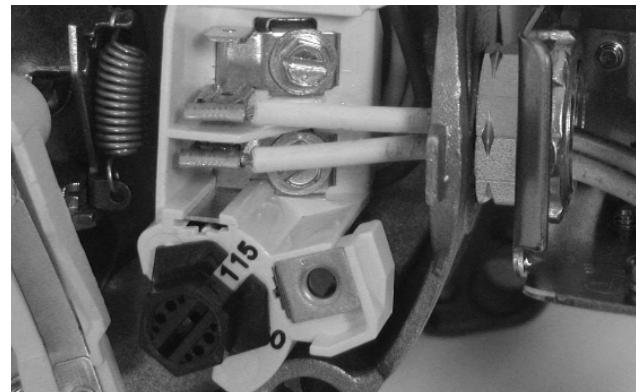

Figure 17 - Voltage set to 115 V, Dial Type
2. Turn the dial counter-clockwise until 115 shows in the dial window as shown in Figure 17